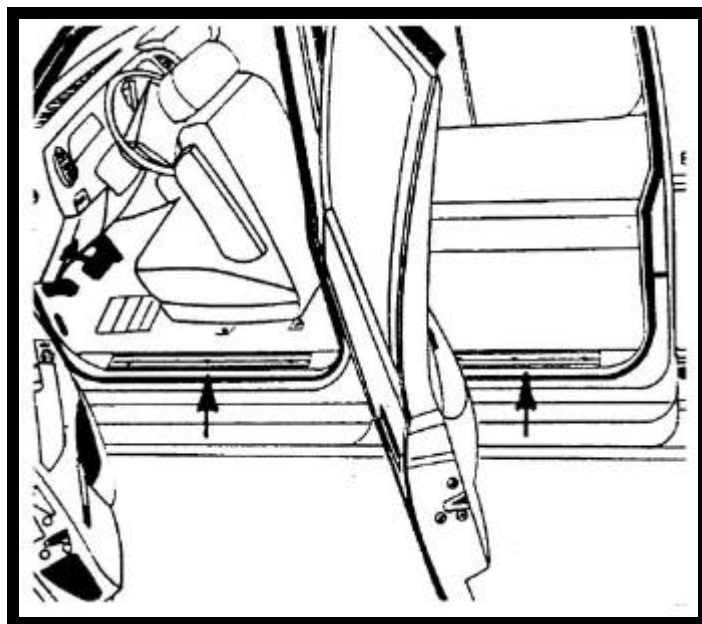

FIGURE 10
9. Remove and retain the two (2) door scuff plates on driver's side. See Fig. 10.